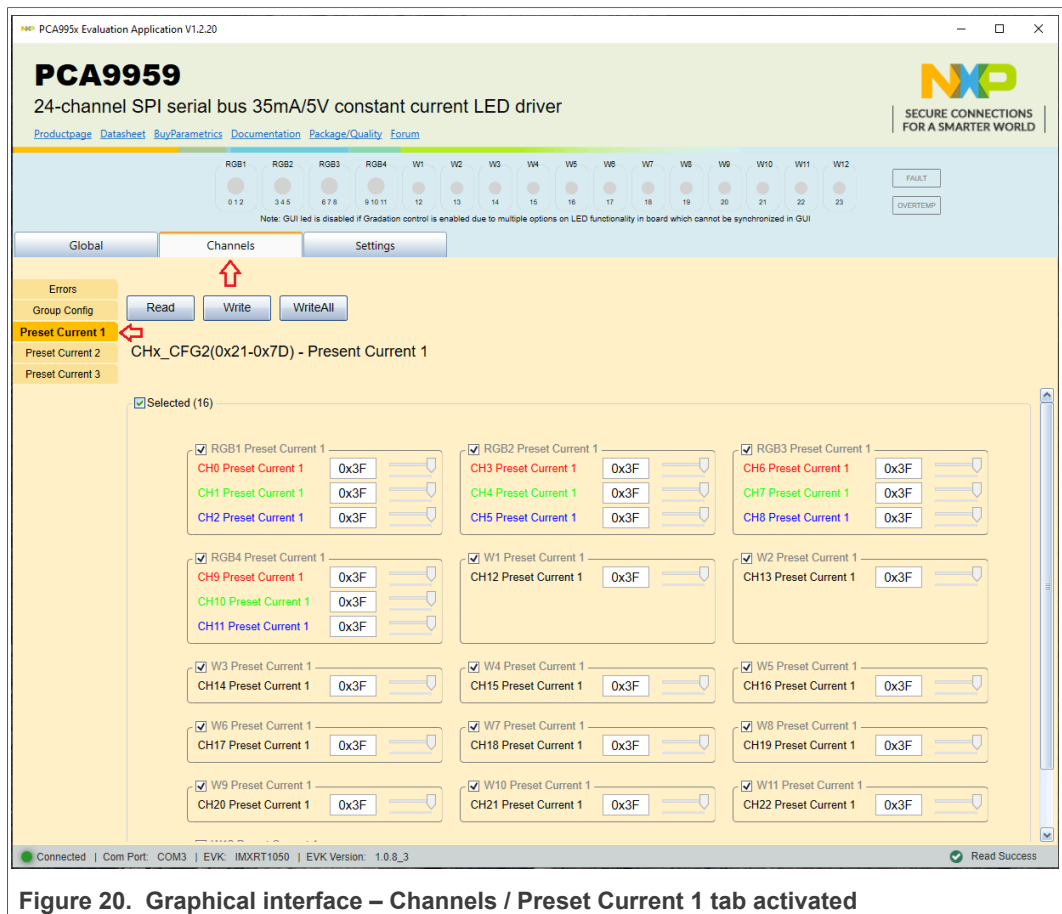

Figure 20. Graphical interface – Channels / Preset Current 1 tab activated
13. Click **Preset Current 1** secondary tab (see Figure 20). From the “Preset Current 1” interface, you can select the desired current for each LED, and then click **Write**. If the desired current is the same for all selected channels, you can select the current for “CH0 Preset Current 1”, and click **WriteAll** to set all channels with the same preset current.